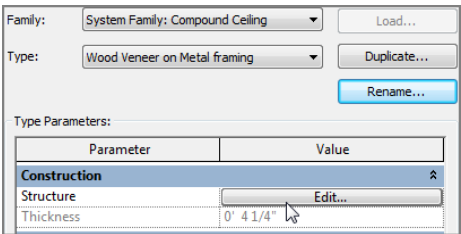

FIGURE 9.15: Clicking the **Edit** button in the **Structure** row to gain access to the ceiling’s structural composition
- 6. In the **Structure** row, click the **Edit** button, as shown in Figure 9.15.